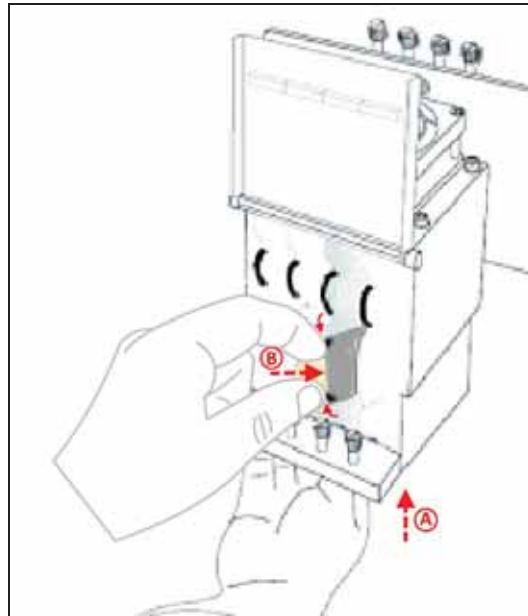

Figure 6-72: Inserting the print-head driver card into its socket
- Re-insert the print-head driver card into its socket (see figure 6-72 on page 48).